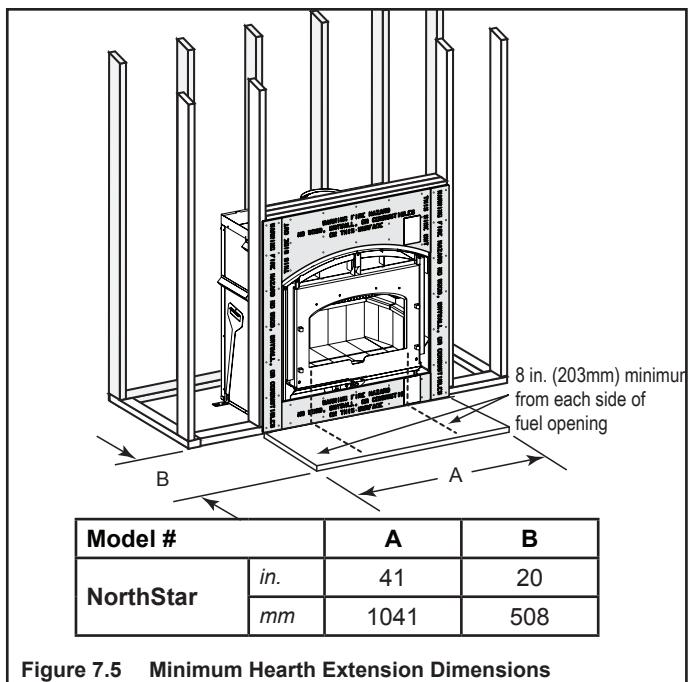

Figure 7.5 Minimum Hearth Extension Dimensions
- Refer to Figure 7.5 for minimum dimensions.
Non-combustible flooring a minimum of 20 in. (508 mm) in front of and 8 in. (203 mm) to either side of the fuel opening is required (see Figure 7.5).